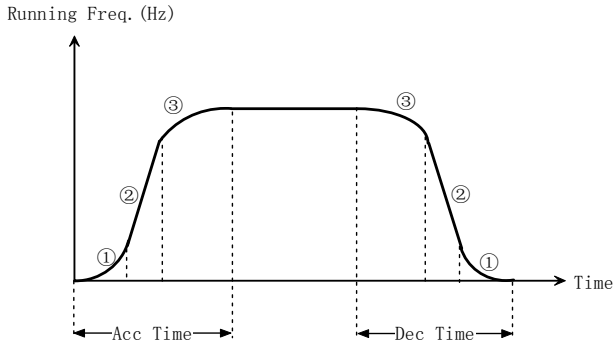

Fig. 5-1-6 S-curve acceleration/deceleration
- ◆ Starting process of S-curve is shown in Fig. 5-1-6 as “①”, where the changing rate of output frequency increases from 0.
- ◆ Rising process of S-curve is shown in Fig. 5-1-6 as “②”, where the changing rate of output frequency is constant.
- ◆ Ending process of S-curve is shown in Fig. 5-1-6 as “③”, where the changing rate of output frequency decreases to zero.